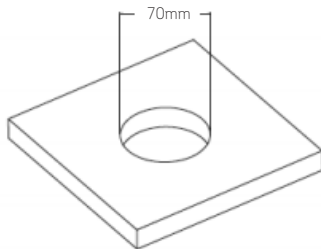

Fig. 1
- Cut a suitable hole in the mounting surface as per the cut-out details (see Fig. 1) ensuring not to infringe with any joists, gas/water pipes, or electrical cables